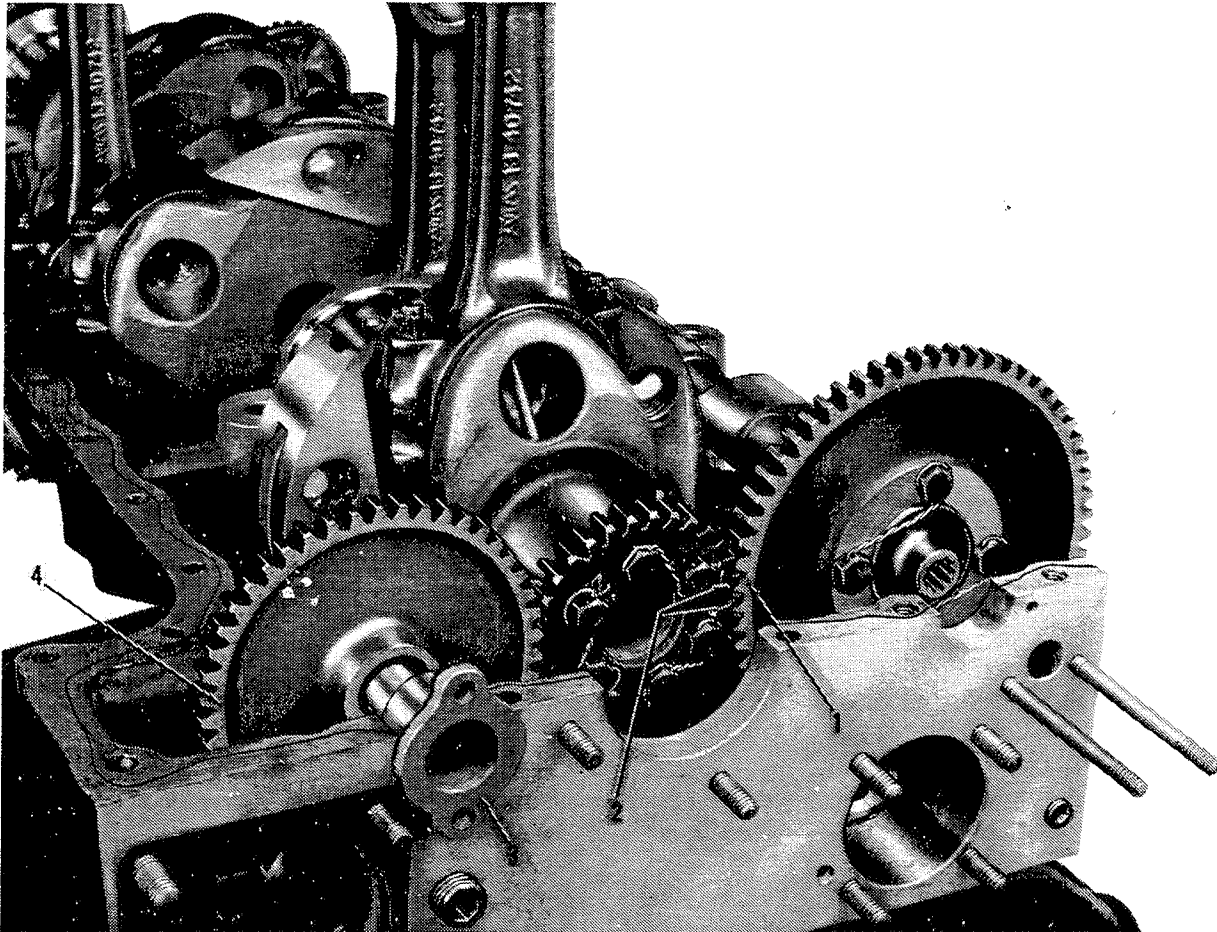

FIGURE 72-60-02A. IDLER GEAR SUPPORT PIN AND TIMING MARKS.
E. Slide the governor driver gear on the front end of the camshaft. Lay the camshaft assembly in its bearings in the left case, meshing the spur gear teeth with those of the crankshaft gear, so that the timing marks will align as illustrated in Figure 72-60-02A idler gear support pin and timing marks, and turning the governor driven gear to mesh it with the driver gear.